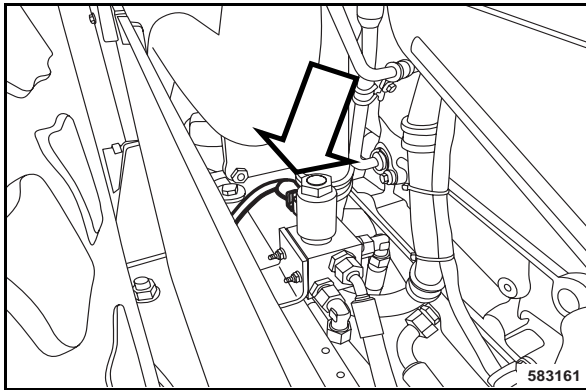

Fig. 133
- Pull the plug off the brake solenoid valve(Fig. 133).
- Reconnect the plug to the parking brake solenoid valve (Fig. 133).